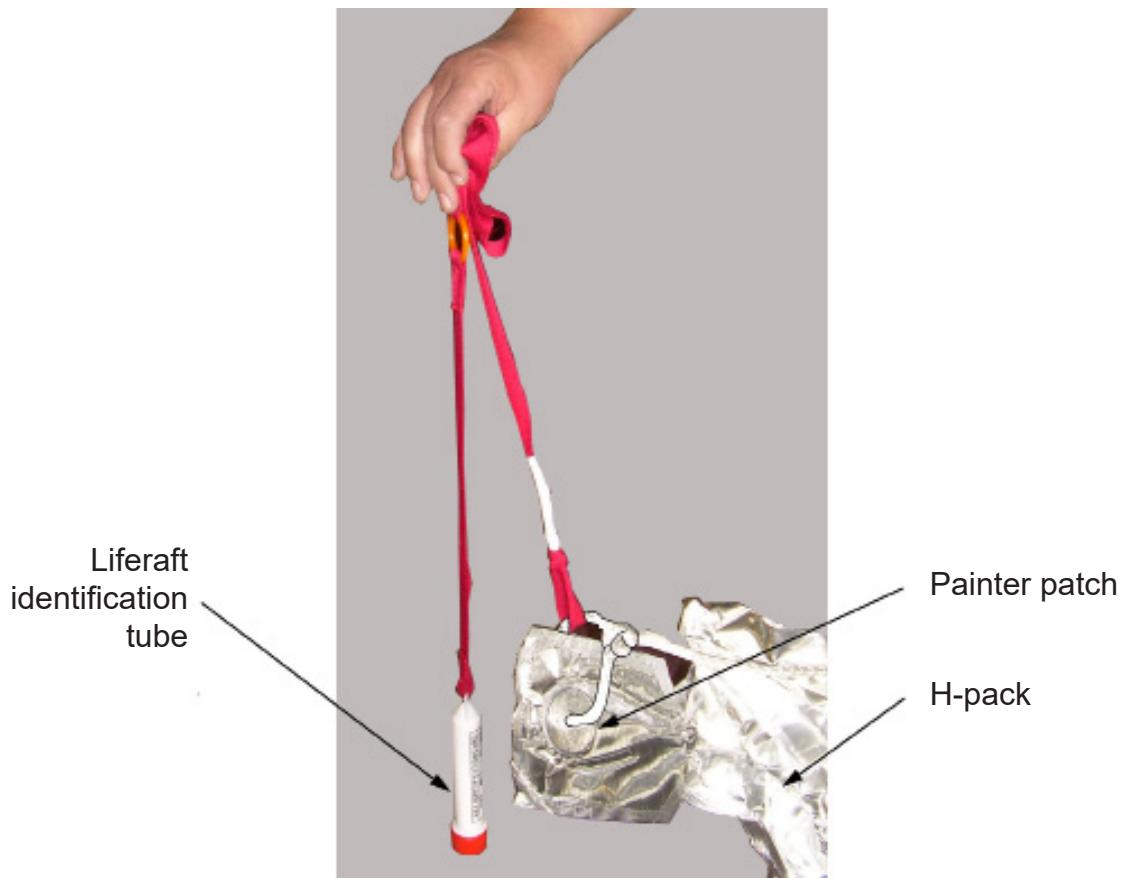

FIGURE A7-25
2.53 Attach the identification tube secuely to the H-Pack. Refer to FIGURE A7-25.